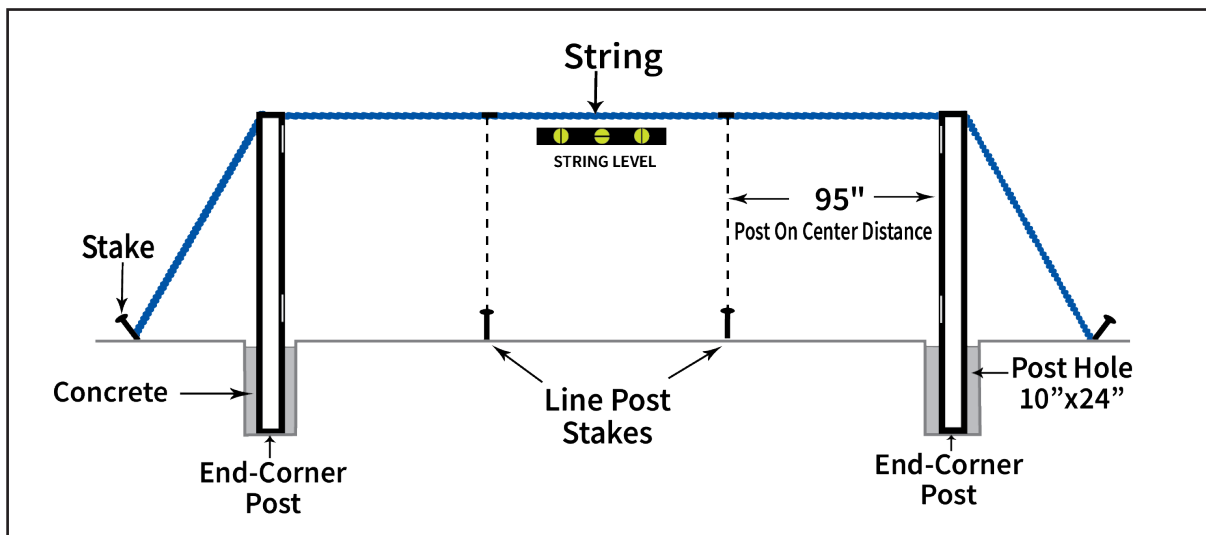

Fig.2b
4. Stake a string line across the top of the End-Corner posts to mark the desired height of the Line posts (Fig. 2b).
5. Now stake out the positions of the Line posts along the string line (Fig. 2b).